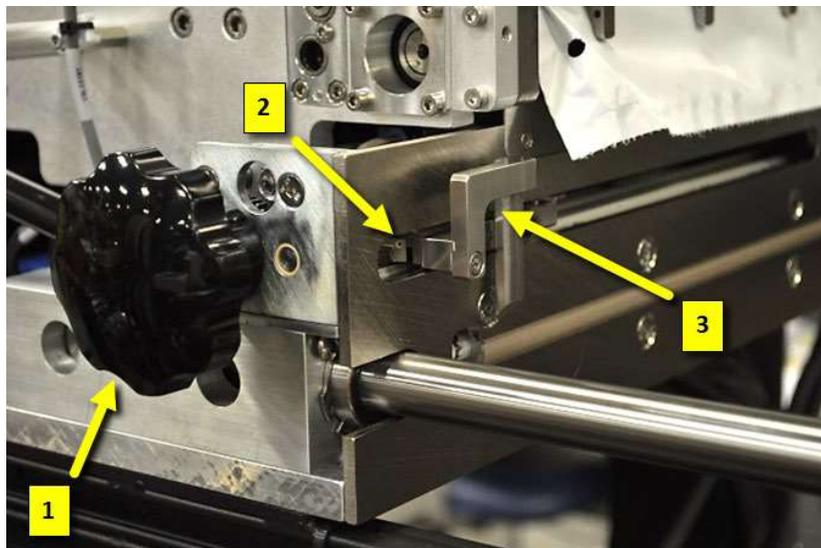

FIGURE 3-16. HAND CRANK AND SEAL FLATTENER PINS (PICTURED WITHOUT SIDE GUARDS)
6. Pull bag web over the main threading tray (item 3), under the printer (not shown), and then slide it into the Main Nip mail slot (item 4). (Lower printer for easier threading).
7. Press the Thread switch forward to feed bag web through Main Nip (item 5). Use hand to gently guide bags forward. Feed until a bag comes out in the seal area, passed the lower rubber nip roller.
13. Adjust the stopping location for the Seal Flattener Pins with the hand crank. Position the pin stop indicators  $\frac{1}{4}$  to  $\frac{1}{2}$  inch *inside* the side bag edges. Refer to Figure 3-16.